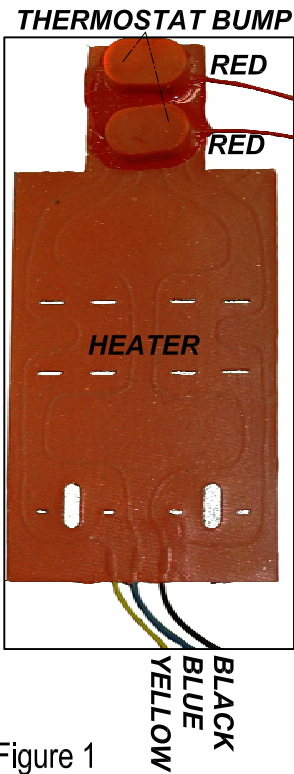

Figure 1
- Figure 1: Heater pad introduce